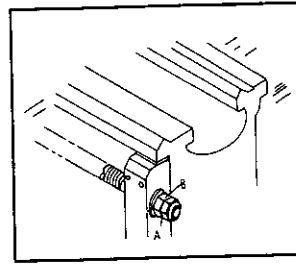

Fig.33
**LEADSCREW ADJUSTMENT (Fig.33)**